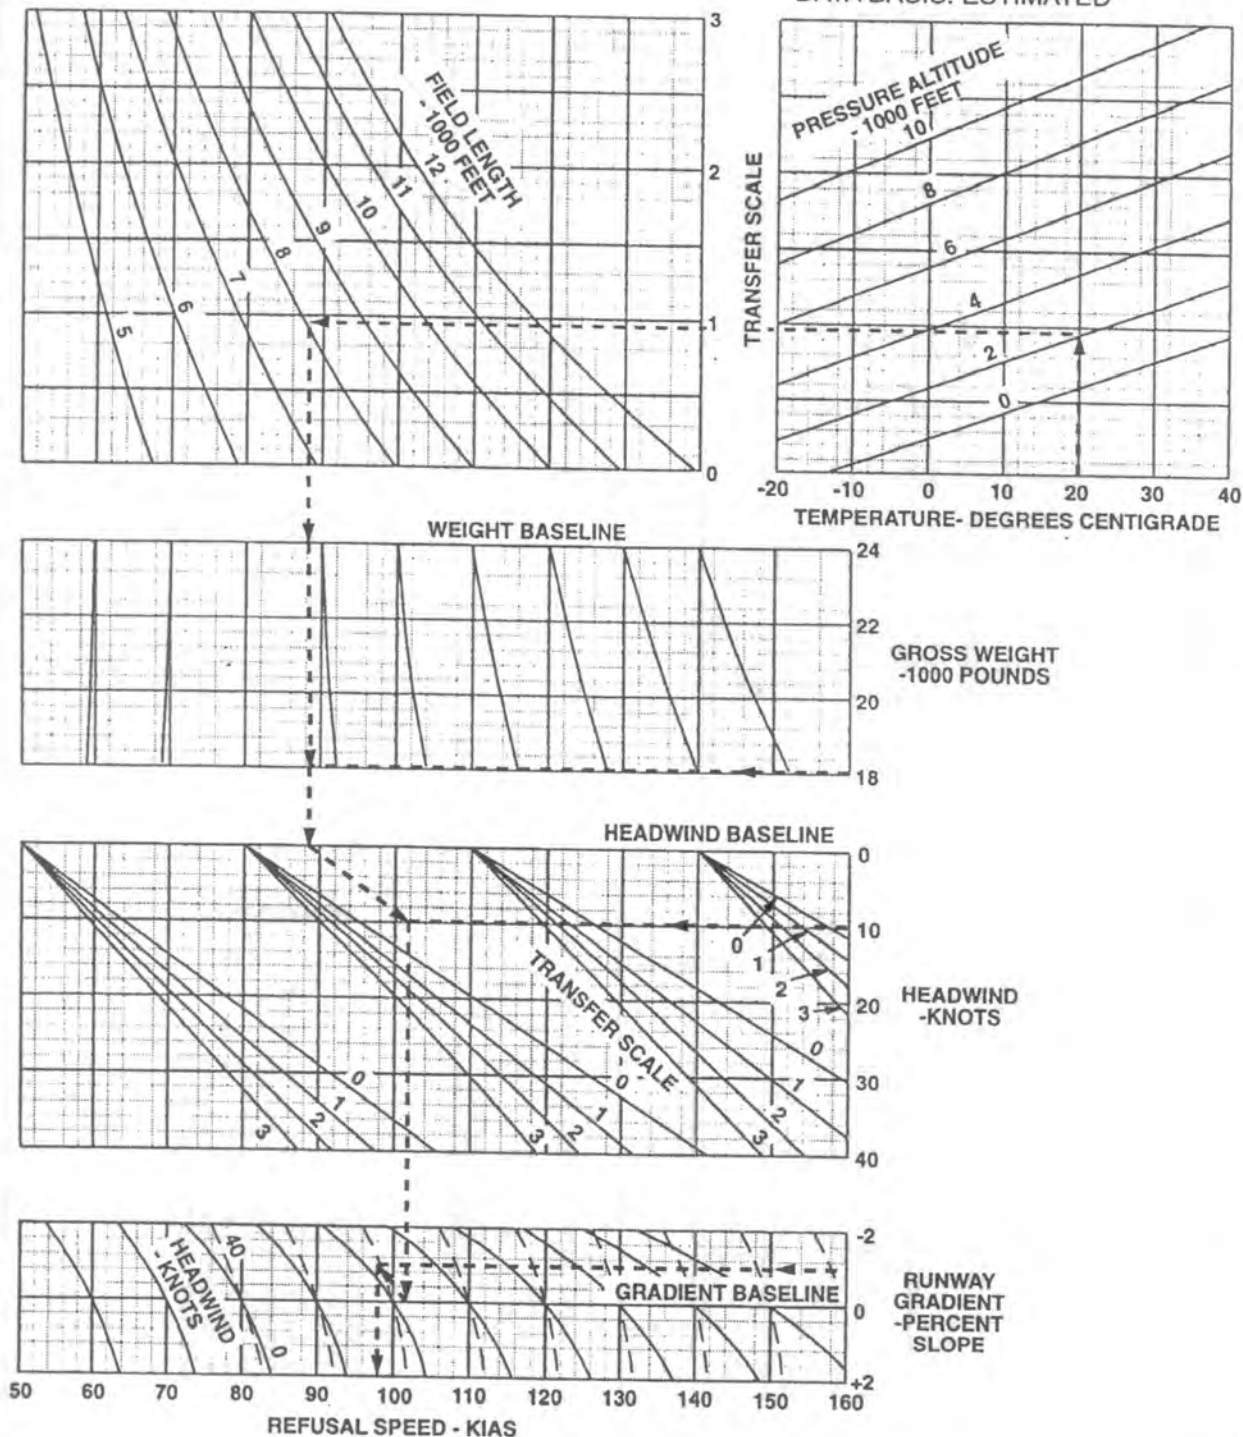
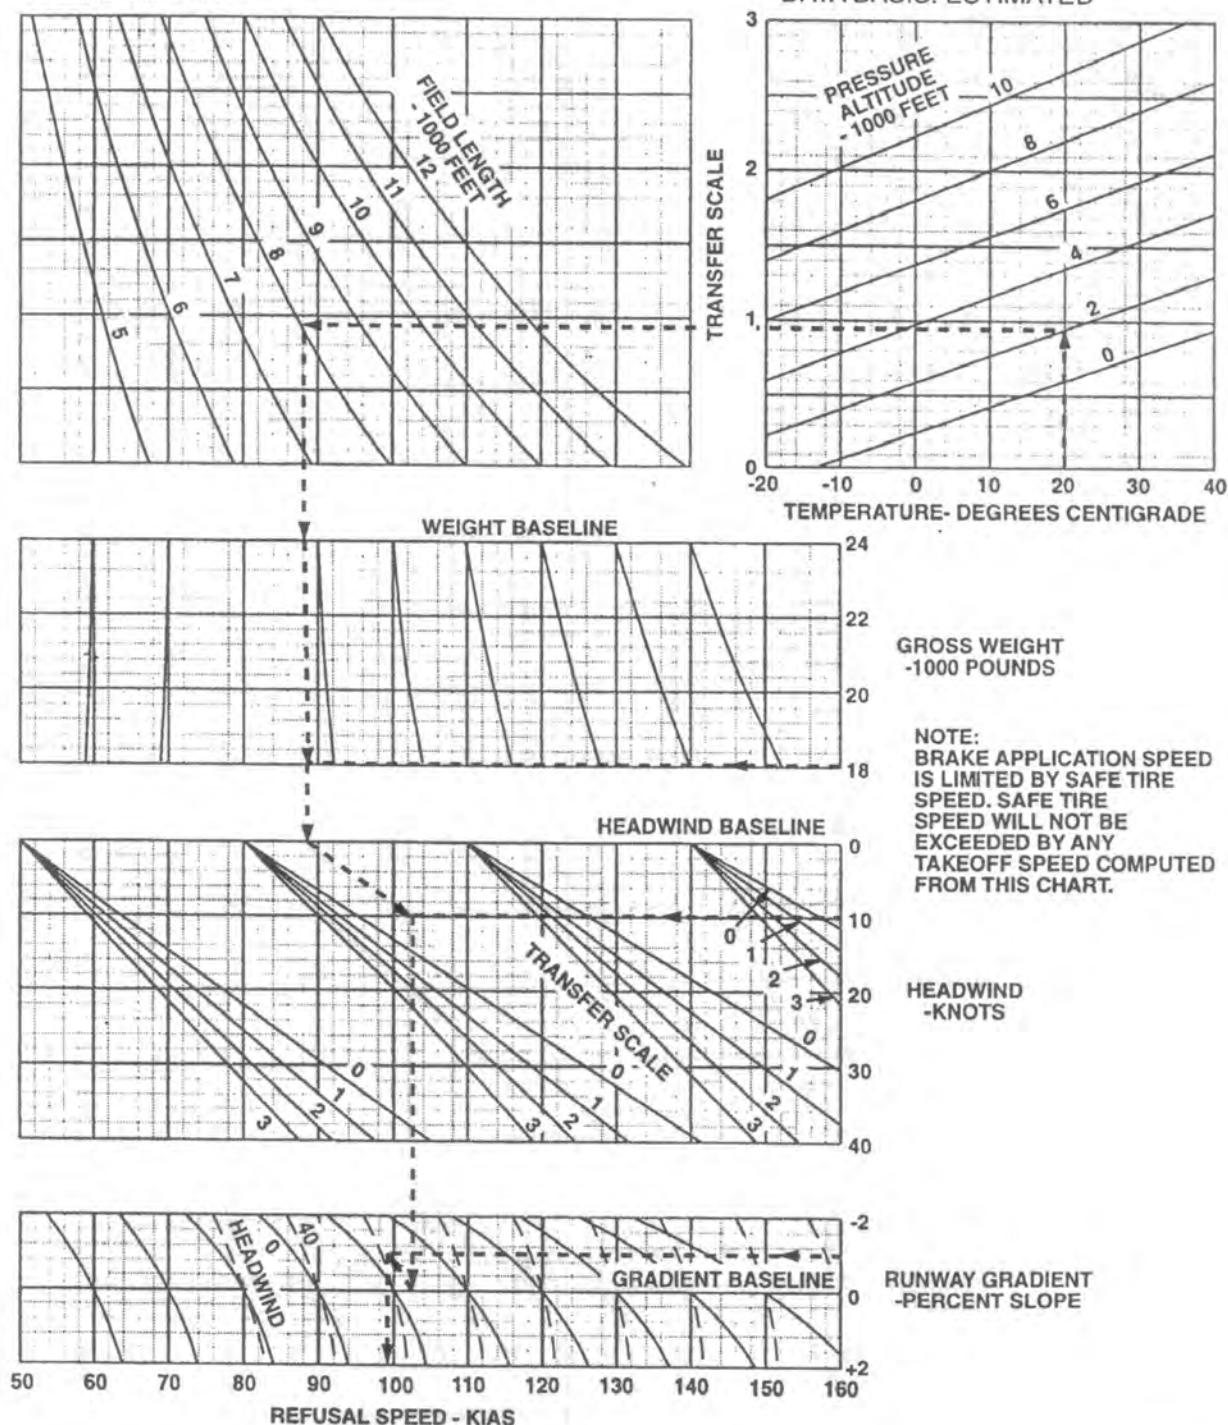

Figure 9-17 Takeoff Refusal Speeds A-4
Figure 9-18 Takeoff Refusal Speeds TA-4
9.29 The maximum refusal speed is that speed at which engine failure permits stopping the aircraft on a runway of specified length. Figure 9-17 and Figure 9-18 present this data for engine failure during a military thrust takeoff. Data includes distance covered during a pilot reaction time of 2 seconds and for an 8-second engine deceleration time from military to idle rpm.
Figure 9-17 and Figure 9-18 take no account of use of drag chute.
(For Figure 9-17)